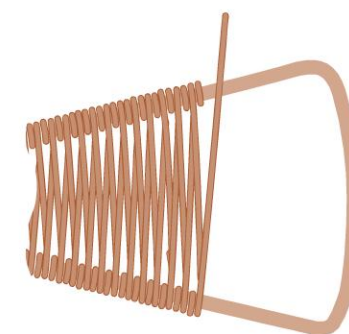

figure 35
- 3 Push the tail wire away from the woven wire, then uncoil it from the frame wire (Figure 35).